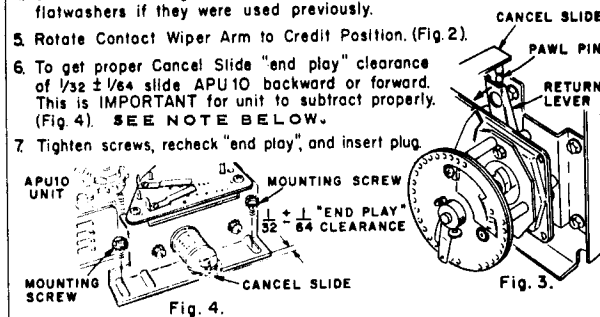

Fig. 3.
2. Pull Return Lever on Motor Assembly away from SC1 Back Plate. (Fig. 3).
3. Reverse step 4 removal procedure. Be sure Pawl Pin on Cancel Slide is between Return Lever and SC1 Back Plate. (Fig. 3).